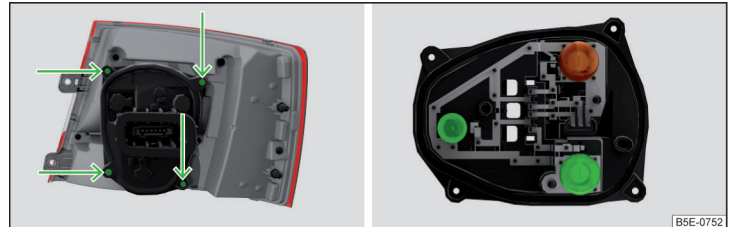

Fig. 355 Outer part of the lamp/inner part of the lamp with bulbs
- Unscrew the lamp holder » Fig. 355 with the screwdriver from the car tool kit, and remove the lamp holder from the light assembly.